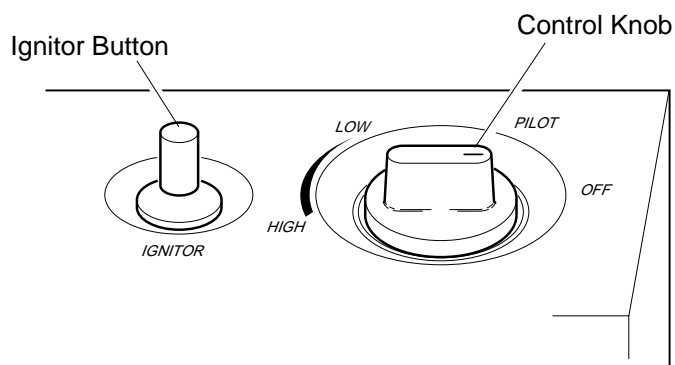

Figure 16 - Control Knob In The OFF Position
4. Wait five (5) minutes to clear out any gas. Then smell for gas, including near the floor. If you smell gas, STOP! Follow “B” in the safety information at the top of page 17. If you don’t smell gas, go to the next step.
5. Press in control knob and turn counterclockwise ↶ to the PILOT position. Keep control knob pressed in for five (5) seconds (see Figure 16, page 17).